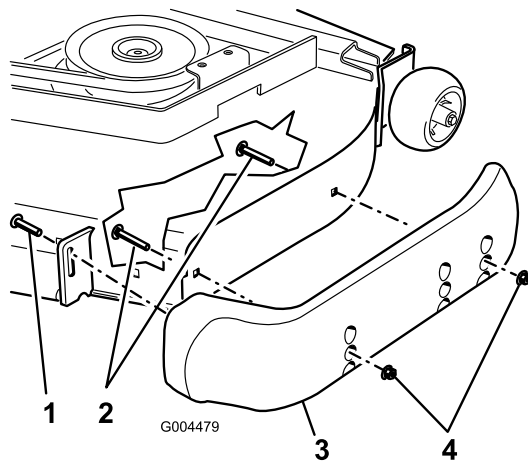

Figure 7
3. Loosen the screw at the front of each skid. There are 2 skids on Guardian mowers and 1 skid on side-discharge mowers (Figure 7).